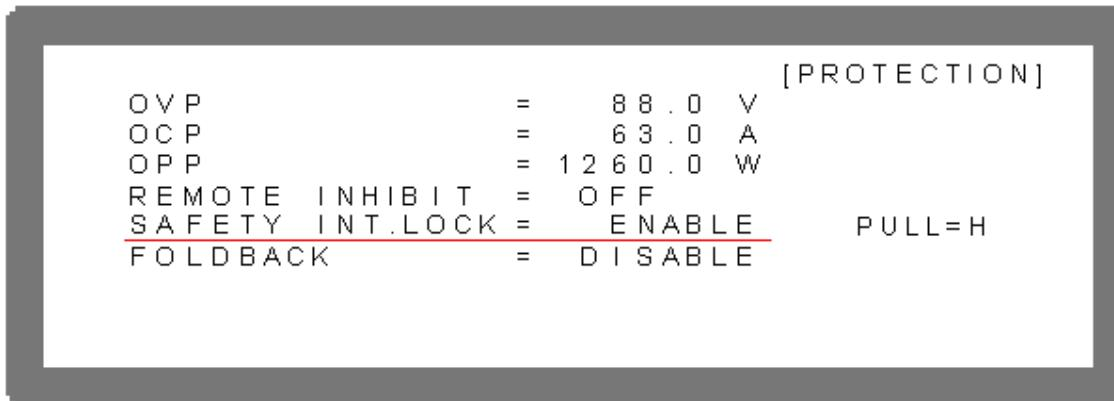

Figure 3-81
1. Use the “” & “” keys to move the cursor to the column to be set as shown in Figure 3-81.